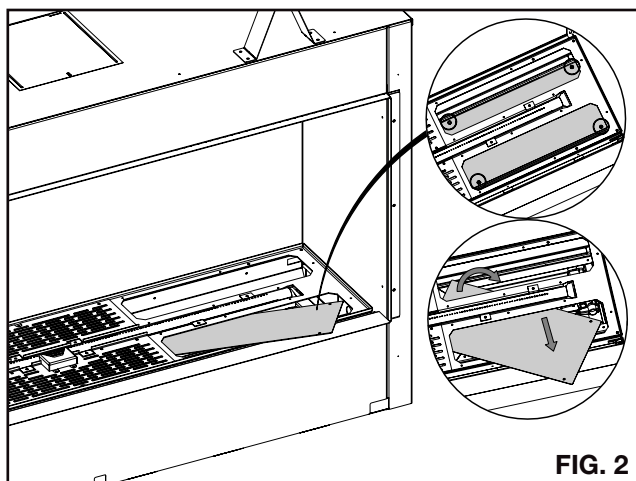

FIG. 2
2. Attach the switch box finishing materials template to the assembled control switch (FIG 2.)
5. Uninstall the 4 screws securing the component box cover. Turn and tilt the cover to remove it. (FIG. 2)